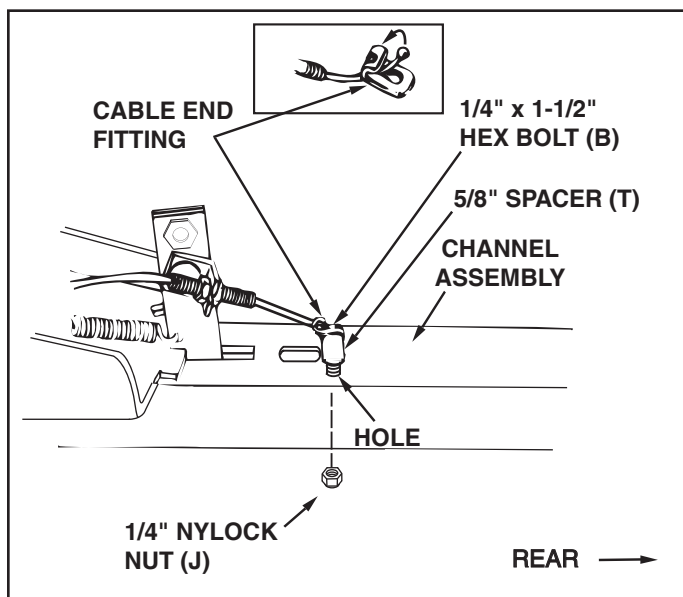

FIGURE 16 (Left Hand Side View)
STEP 16: (SEE FIGURE 16)
- Assemble 1/4" x 1-1/2" (B) hex bolt down through the cable end fitting, the 5/8" long spacer (T) and the left hand hole in the channel assembly. Secure with a 1/4" nylock nut (J). **Tighten.**